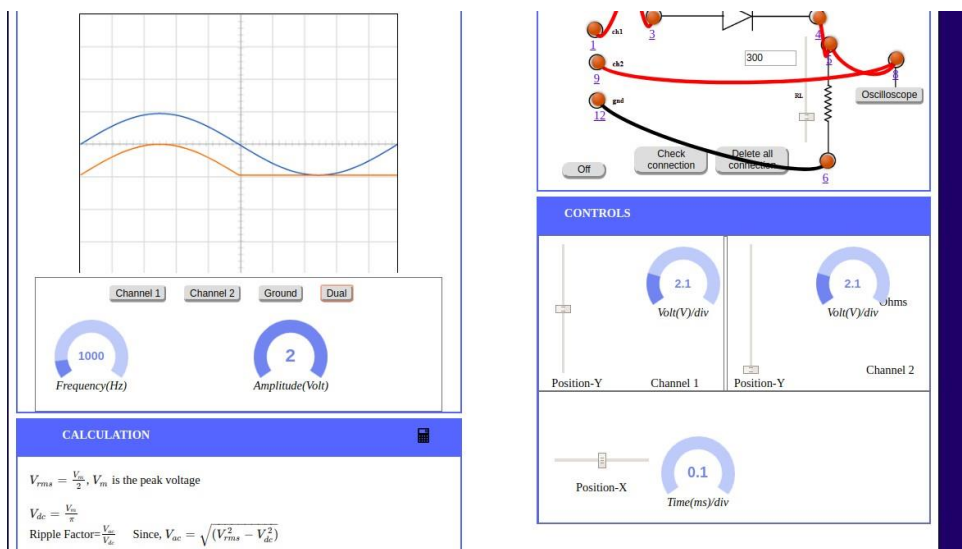

Figure 7
Step 4 : Set channel 2 ---> volt/div is 2 volt and amplitude is set to 2 volt, output signal in the oscilloscope screen is upto 1 division. And time/div is 0.1ms/div. In the figure 7 shows the both signal.